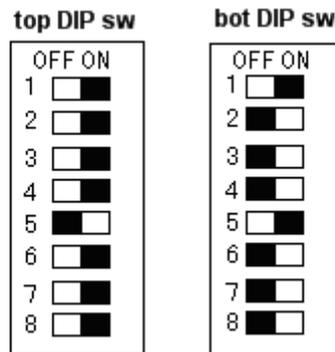

Figure 42 Position of DIP switches for IGBT 6 test
i) Set DIP switches as in Figure 42